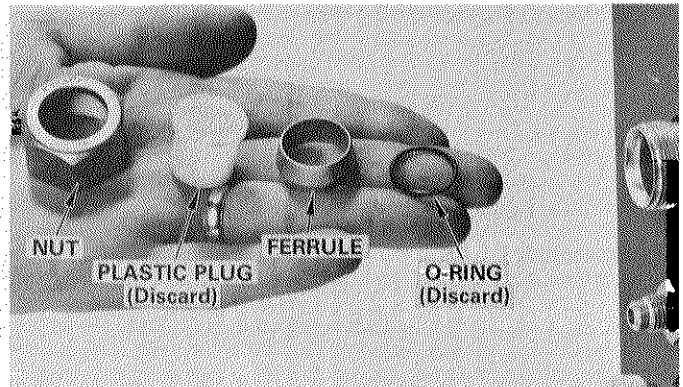

FIGURE 4
Step 2 - Remove nut from fitting. Discard shipping plug and O-ring. (Figure 4)